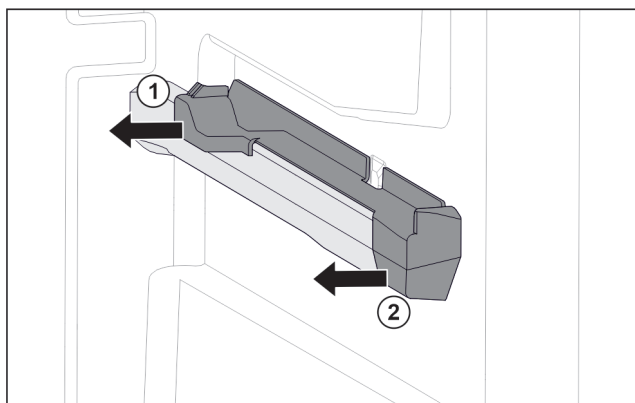

Fig. 112 Attachment on the right moulded rib
- Pull off attachment at the back sideways. Fig. 112 (1)
- Pull off attachment at the front sideways. Fig. 112 (2)